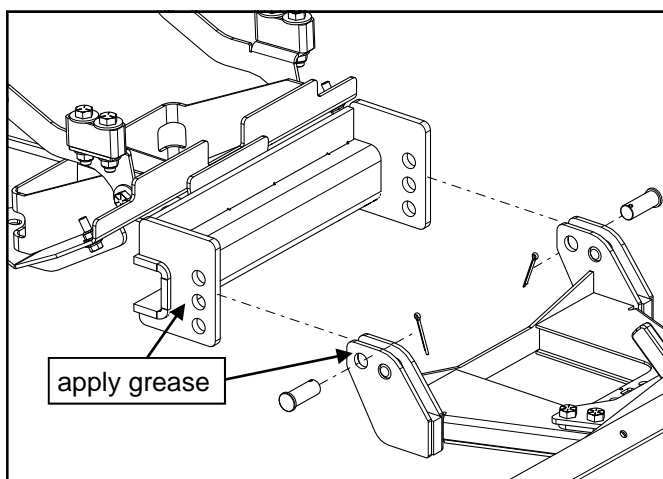

Fig. 6.1 (A-Frame and Lift Frame Mounting Tabs)
6.1 Apply grease to the pivot holes in the rear of the A-Frame and the lower Lift Frame. See Fig. 6.1.
6.3 Make sure A-Frame is level with the ground and insert  $\frac{3}{4}$ " x 2" long clevis pin into the appropriate hole. Double check for levelness and install cotter pins. See Figures 6.1 and 6.2.